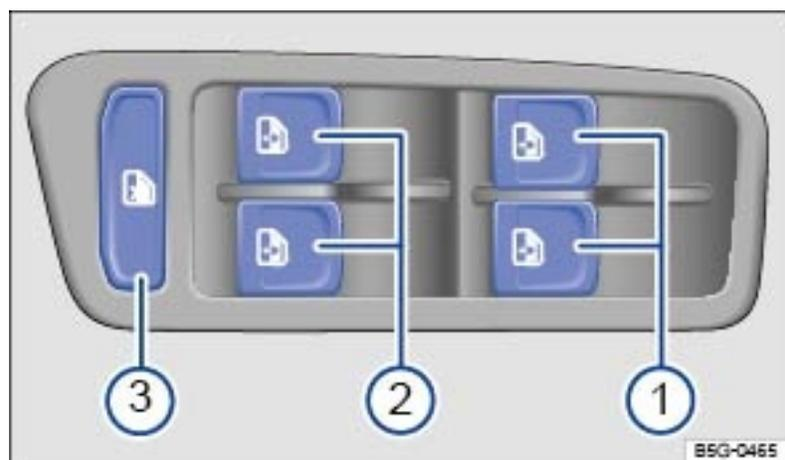

Fig. 35 In the driver door: Switches for the front and rear power windows (4-door version shown).
Key to → Fig. 35:
The safety switch → <a href="#">Fig. 35 ③</a> deactivates the power windows in the rear doors. The yellow indicator light in the switch lights up (4-door models only).